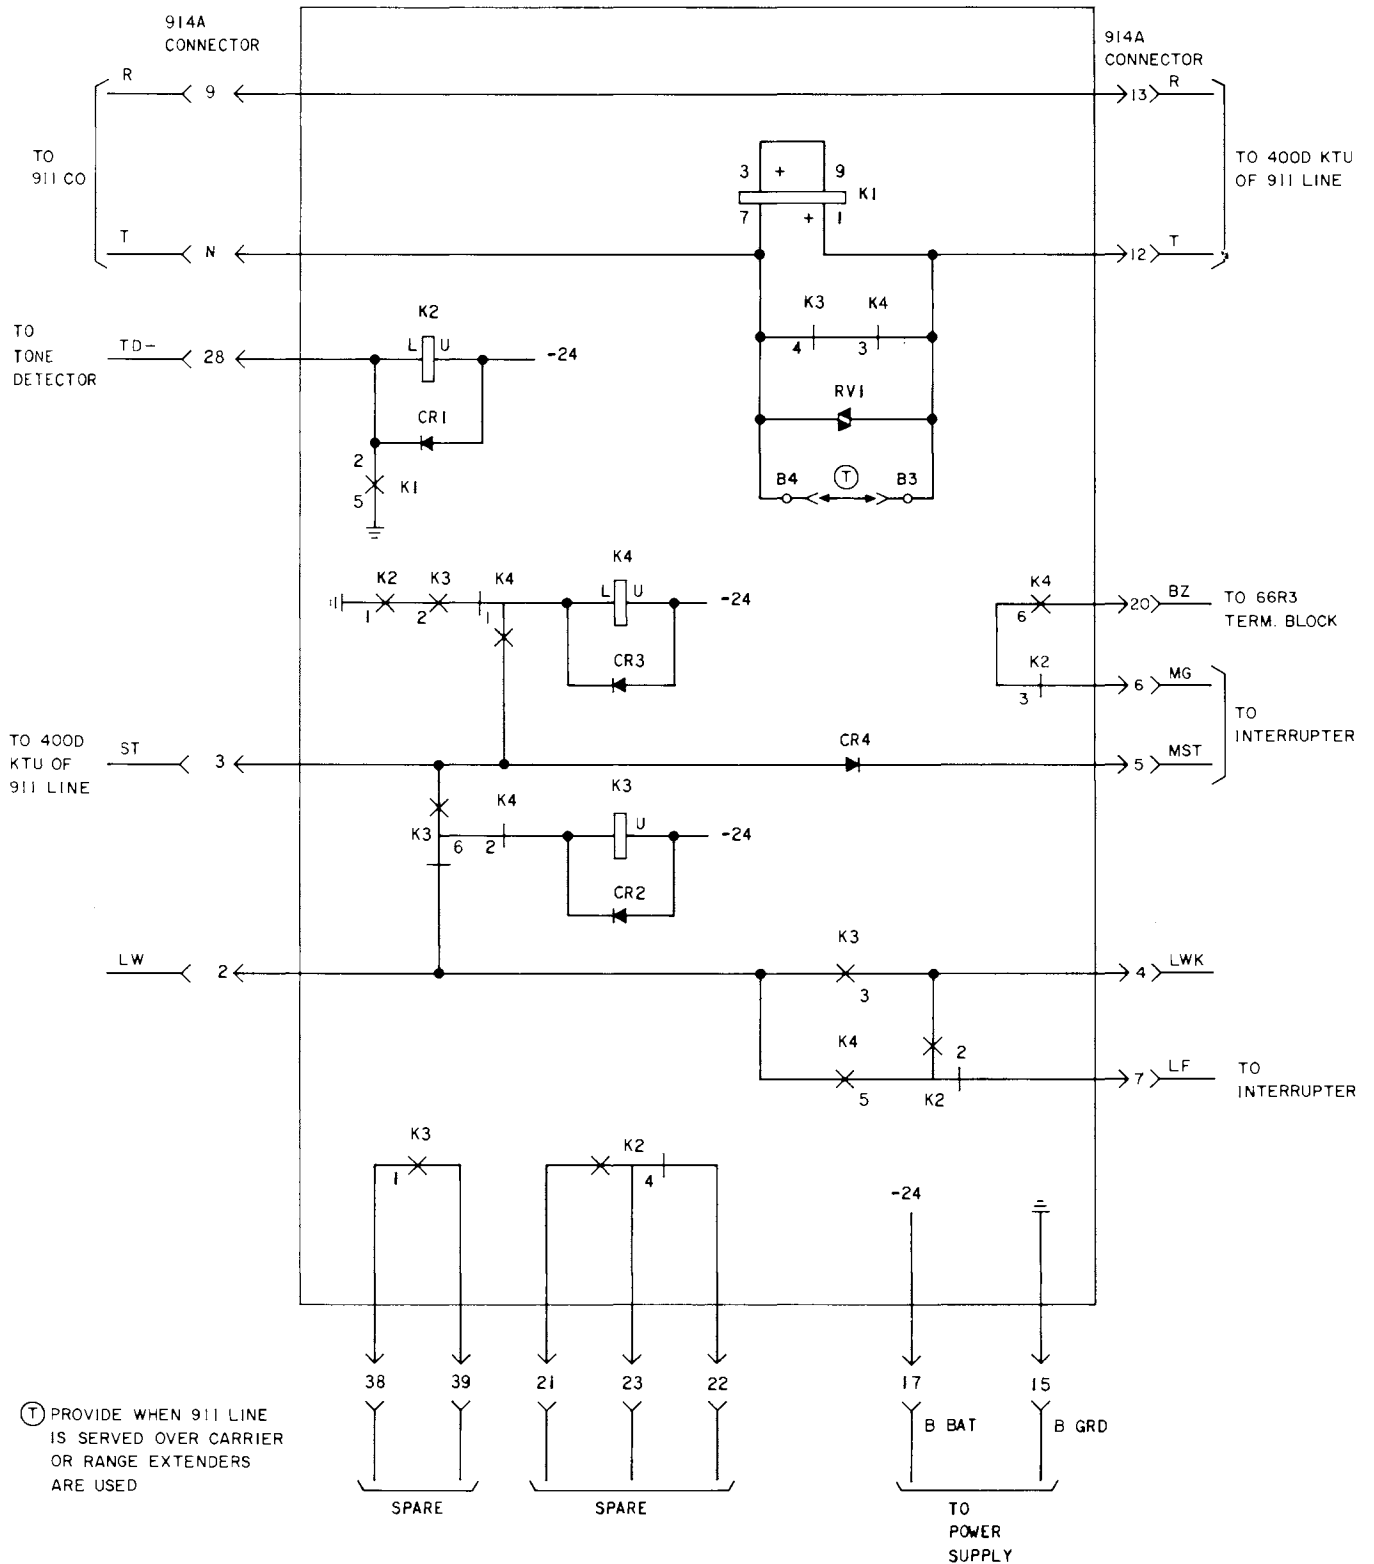

Fig. 7—Condensed Functional Schematic of Circuit Pack AE37 (Switchhook Status Circuit)
3.04 The AE37 (Fig. 7) provides indications to the attendant on the switchhook status (on-hook or off-hook) of the 911 calling party during a hold condition. If an off-hook caller is placed on hold, the 911 line lamp winks on the attendant telephone set. If the 911 caller goes on-hook and the attendant places the line on hold, the line lamp winks until the held caller goes off-hook. The lamp then changes from wink to flash and the switchhook status buzzer sounds. One AE37 is required for each incoming 911 line.